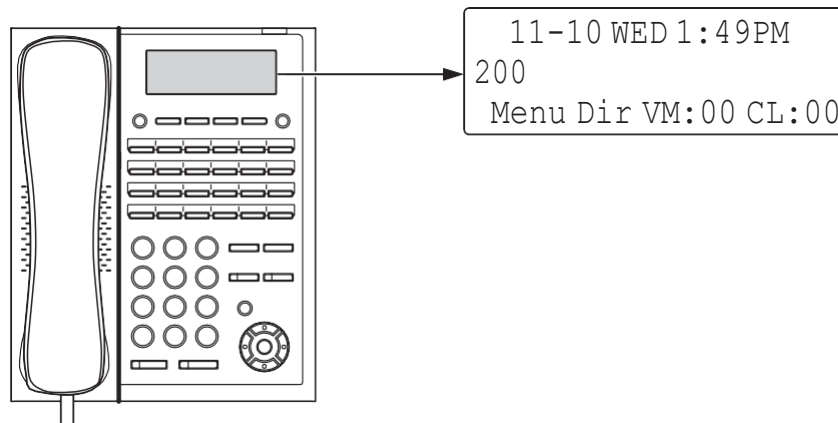

Figure 3-3 Display Indication (Idle) (12TXH/24TXH-B1)
3. When the system has completed reloading the software, the RUN LED is flashing green on the CPU board, and the connected Multiline Telephone's display will show the Time & Date and Extension Number as Figure 3-3 Display Indication \(Idle\).